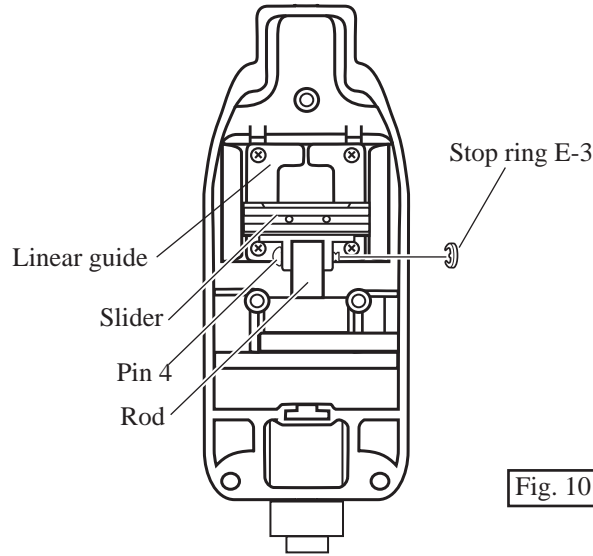

Fig. 10
5. Assemble stop ring E-3 to pin 4 as illustrated in Fig. 10.